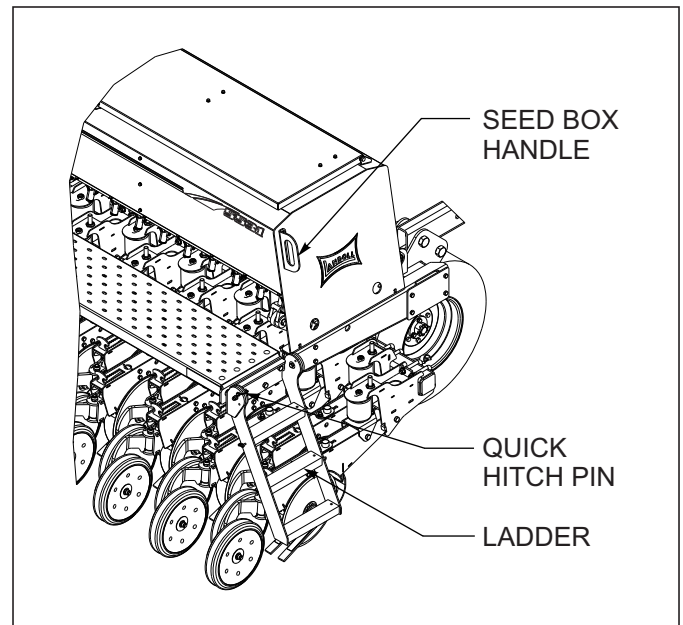

Figure 4-32: Using the Ladder
- a. Lower ladder to the down position and place pin in the storage location to gain access to the seed boxes (*See Figure 4-32.*)